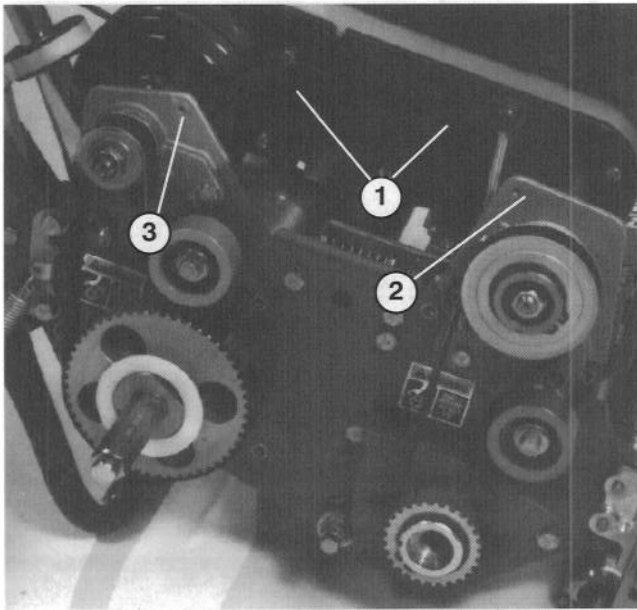

Figure 37
3. Remove capscrews securing front and rear sections of differential cover to differential housing and slide cover sections away to expose belt (Fig. 37).
6. Remove (2) capscrews and locknuts securing front clutch housing to side plate (Fig. 37). Rotate housing 180°, so bottom of housing points upward.
7. Remove (2) capscrews and locknuts securing right rear bearing housing to side plate (Fig. 37). Rotate housing 180°, so bottom of housing points upward.